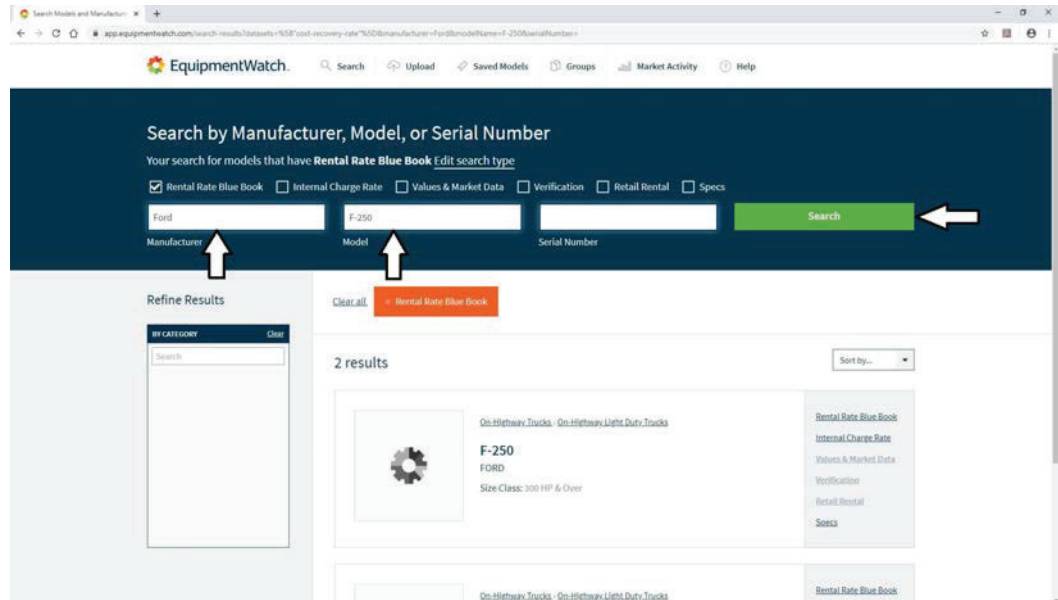

Figure 4-9: EquipmentWatch Search Area
- Enter the type of equipment that you are inquiring about in the Manufacturer and Model boxes and click the Search button (Figure 4-9).